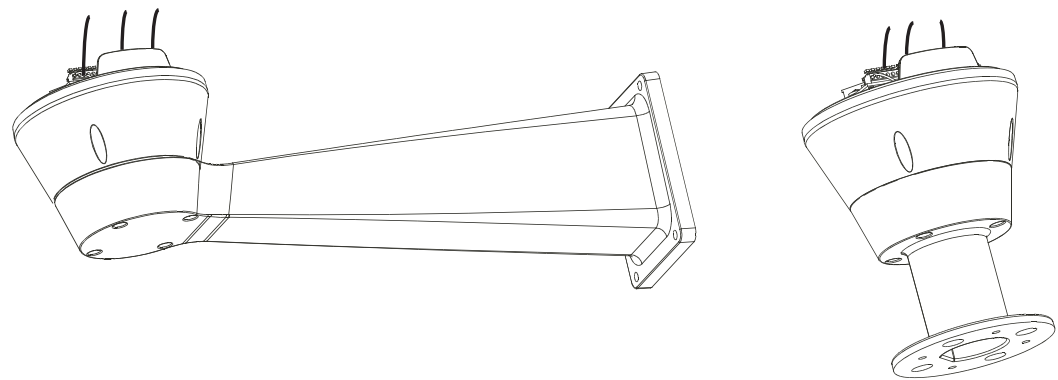

Figure 4.4 Preparing the Cables for Wiring
1. Cut the cables to approximately 152.4 mm (6 in.) (see *Figure 4.4*). The earth cable must be longer than the power wires by approximately 10 mm or more to prevent disconnection.